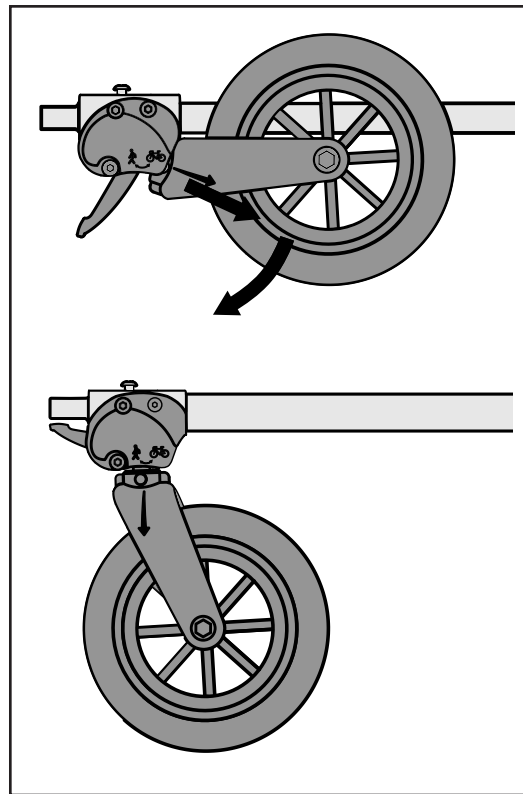

Figure 13
1. Pull fork as shown (Figure 13), then rotate wheel down fully. Fork will automatically secure into the locked position.